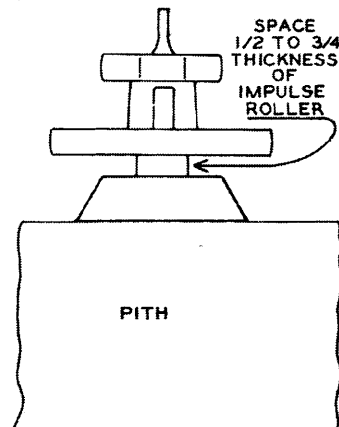

Fig. 15-12
2. Test roller in position on roller post, figure 15-12. Roller should slip over post until the space between the hub and the impulse roller is approximately $\frac{1}{2}$ to $\frac{3}{4}$ the thickness of the roller table.